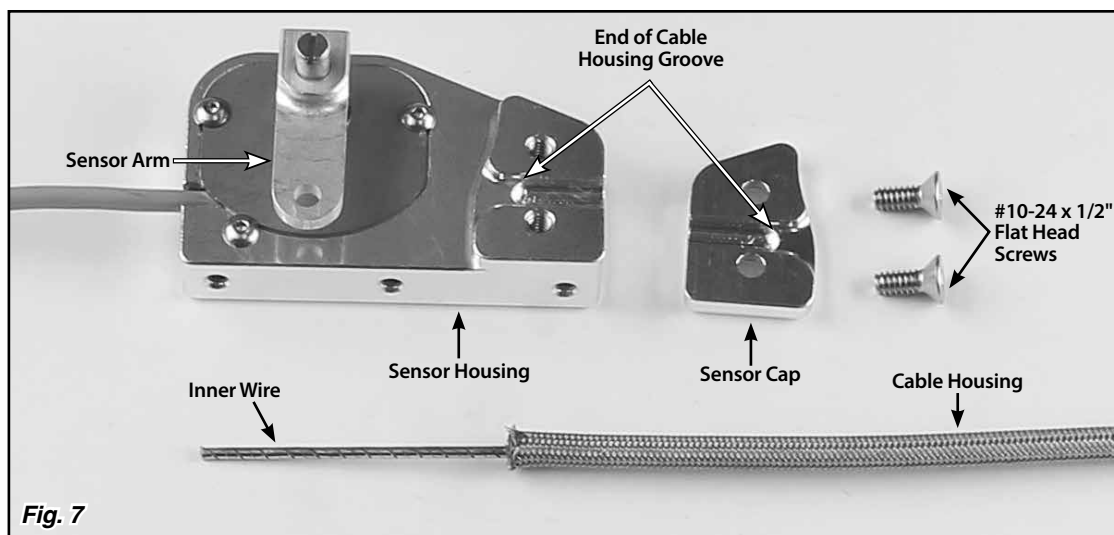
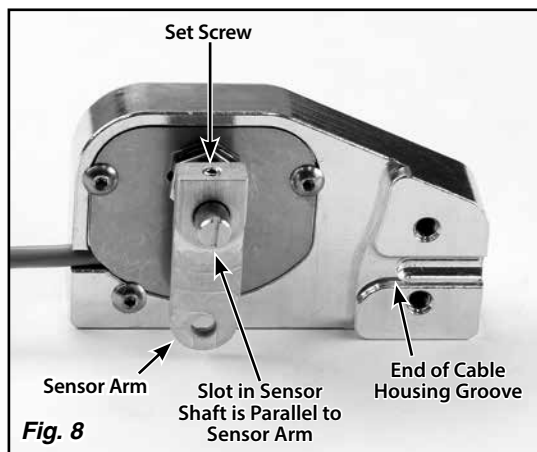

Fig. 7
Fig. 8
Step 3: Remove the sensor cap by removing the two #10-24 x 1/2" flat head screws using a 1/8" Allen wrench, and separate the cable housing from the sensor. **Fig. 7**
Step 4: Make sure the sensor arm is parallel to the slot in the sensor shaft, with the set screw in the top of the sensor arm aligned with the slot. If it is not, loosen the set screw in the top of the sensor arm using a 1/16" Allen wrench, and adjust the position of the sensor arm on the shaft. **Fig. 8**
There is a groove in the sensor housing that the end of the cable housing fits in to. Mark the cable housing at the end of the cable housing groove. Remove the cable housing from the adjustable cable mounting bracket. **Fig. 7 and Fig. 8**